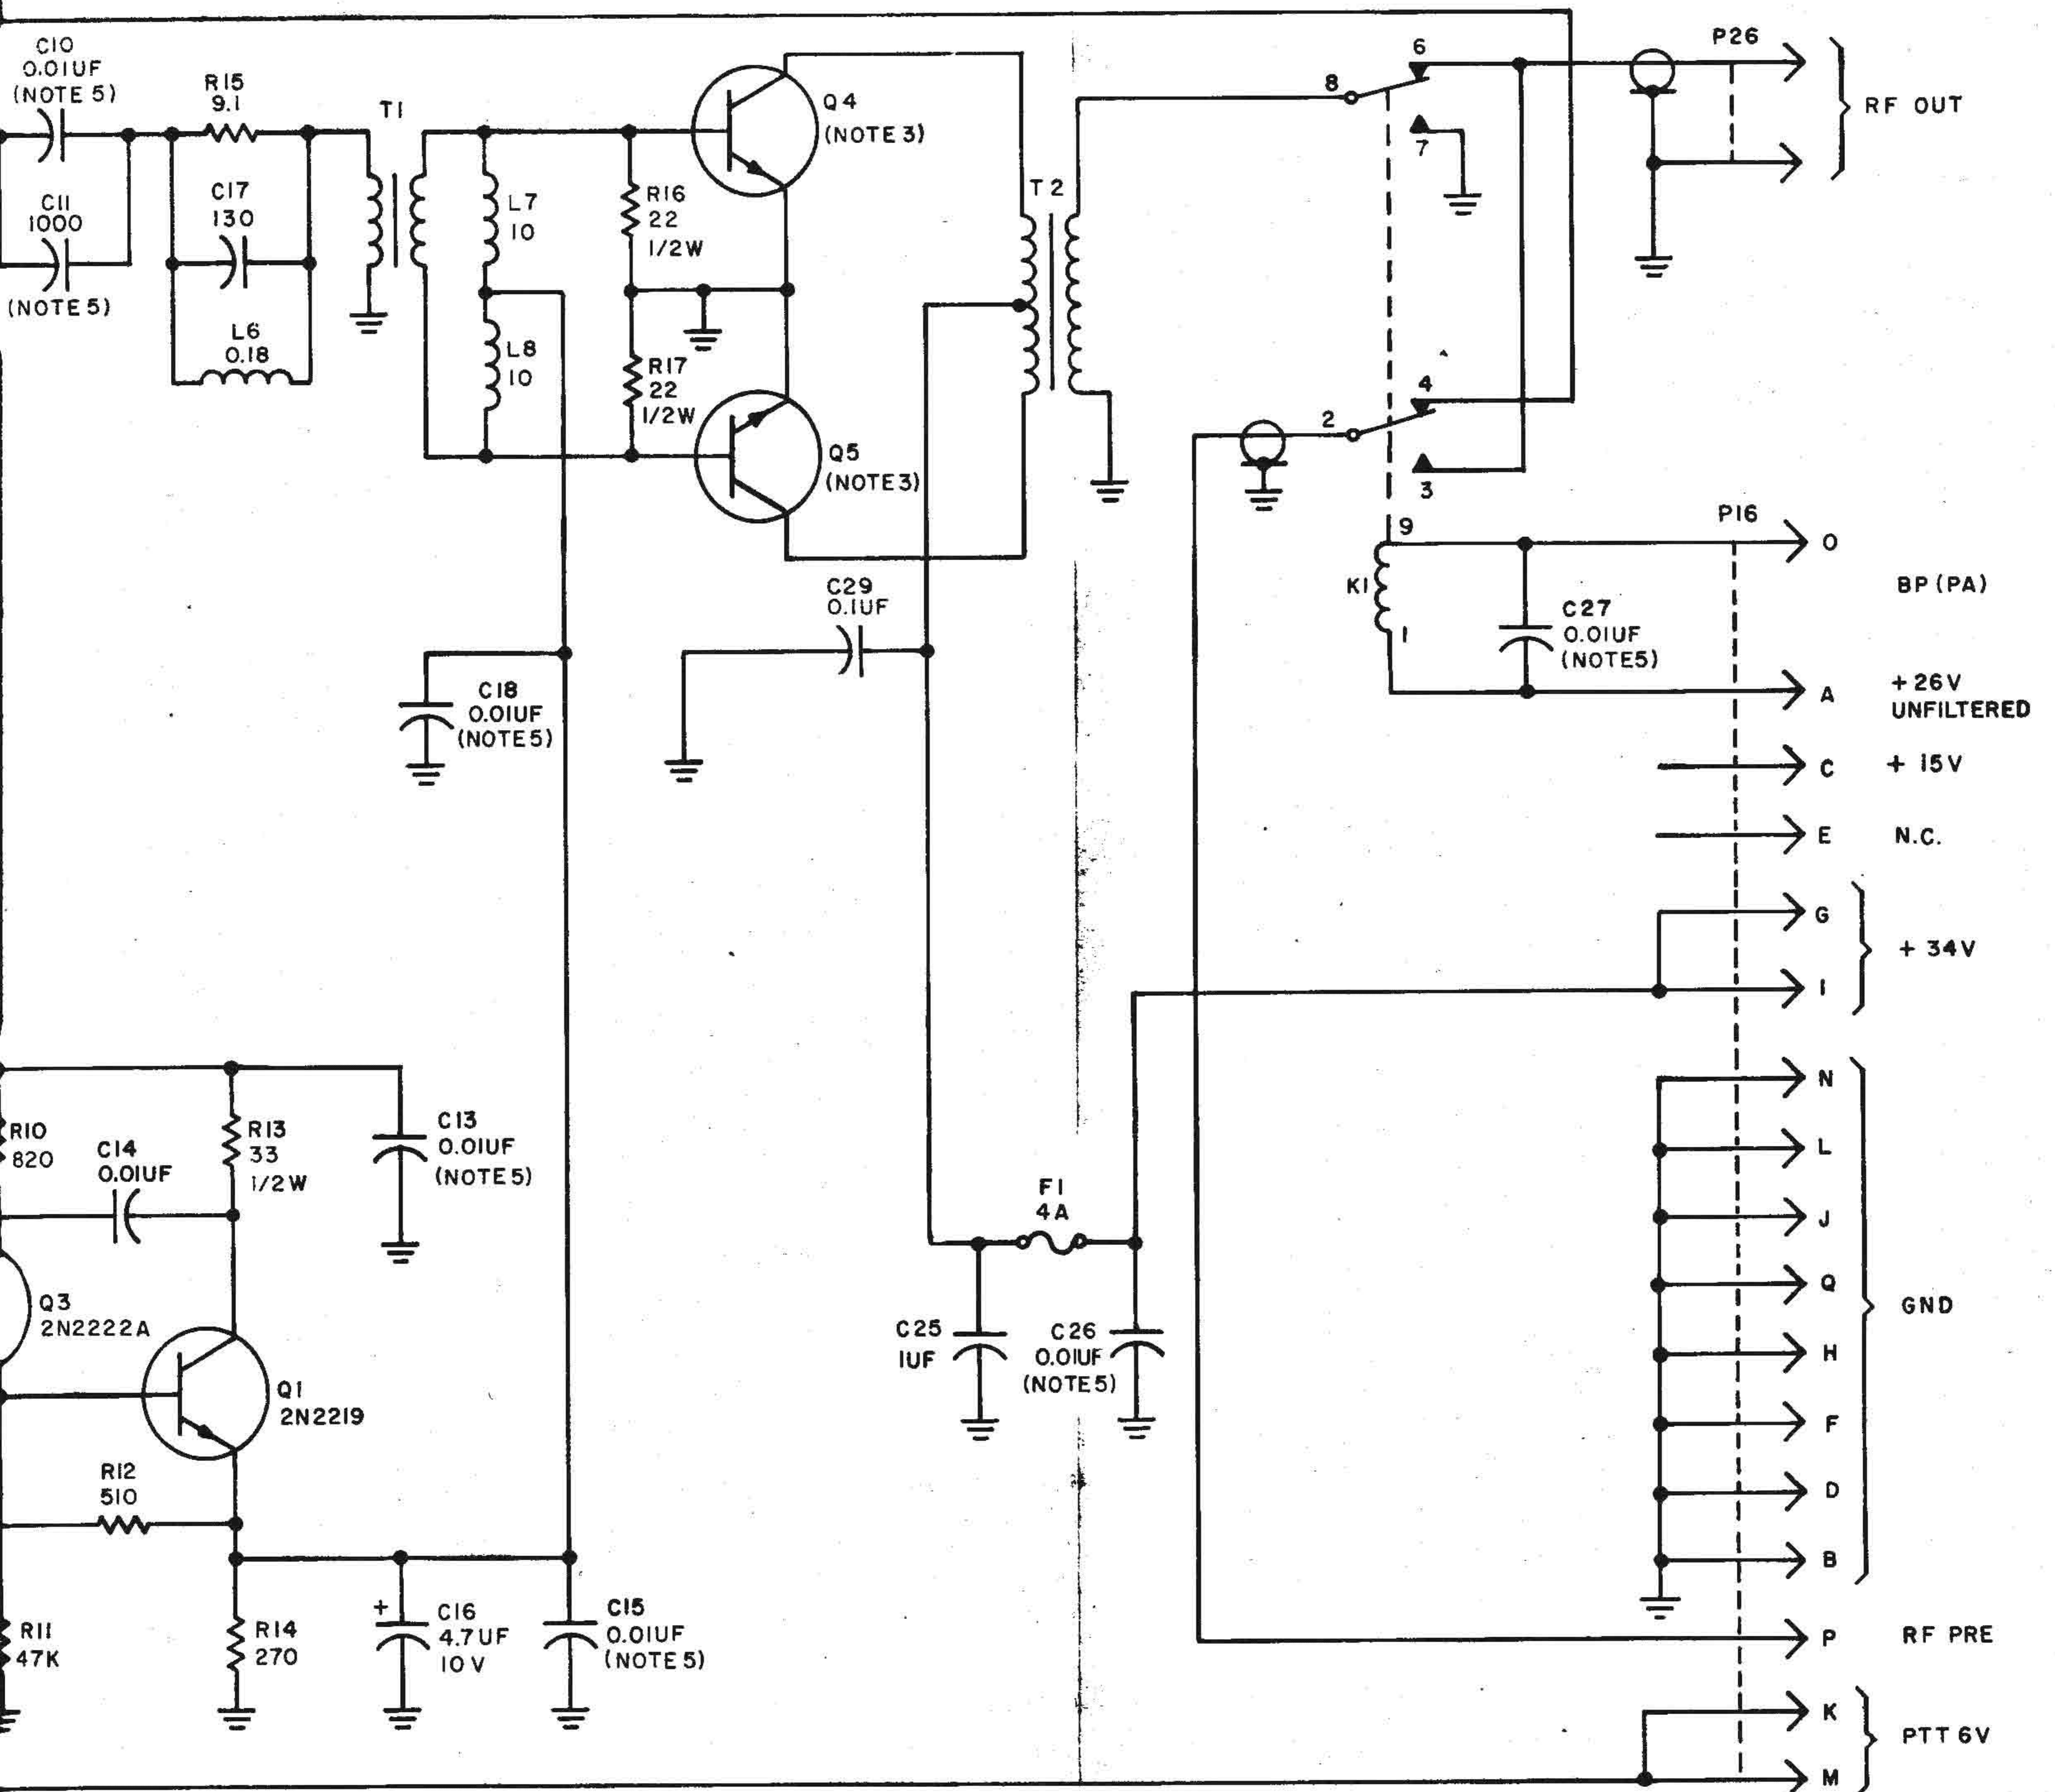

Fig. 2-26. Module PA1A6, schematic circuit diagram
b. Circuit Analysis (fig. 2-26).
(1) Driver stage. The RF signal, arriving from module PRE 1A2A4 at pin P, is connected, through the normally-closed contacts (2 and 4) of relay K1 (unenergized), to the input of the driver stage. The driver stage is built around the vertical MOS (VMOS) FET power transistor Q6. The RF input signal is applied to the gate of Q6 via an attenuator comprised of R1 and R2, a frequency compensation network comprised of R3, C1, R4 and L1, and DC-blocking capacitors C2 and C3. The gate bias voltage is applied through a voltage divider comprised of resistor R5 and potentiometer R6. L2,